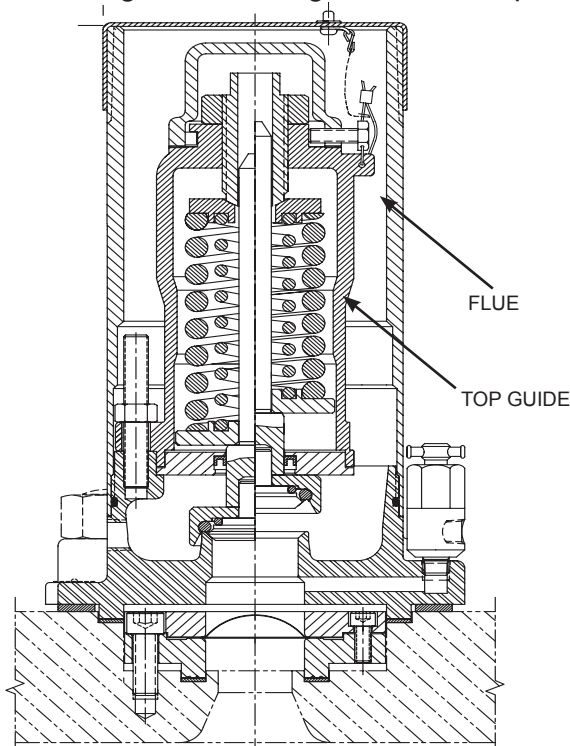

Figure 3 - Valve Top Guide/Flue
1.3 Hold the valve by the top guide/or flute (Fig. 3) and lower it gently into the mounting. Align the body holes over the studs and lower the valve while positioning the valve tongue in the coverplate